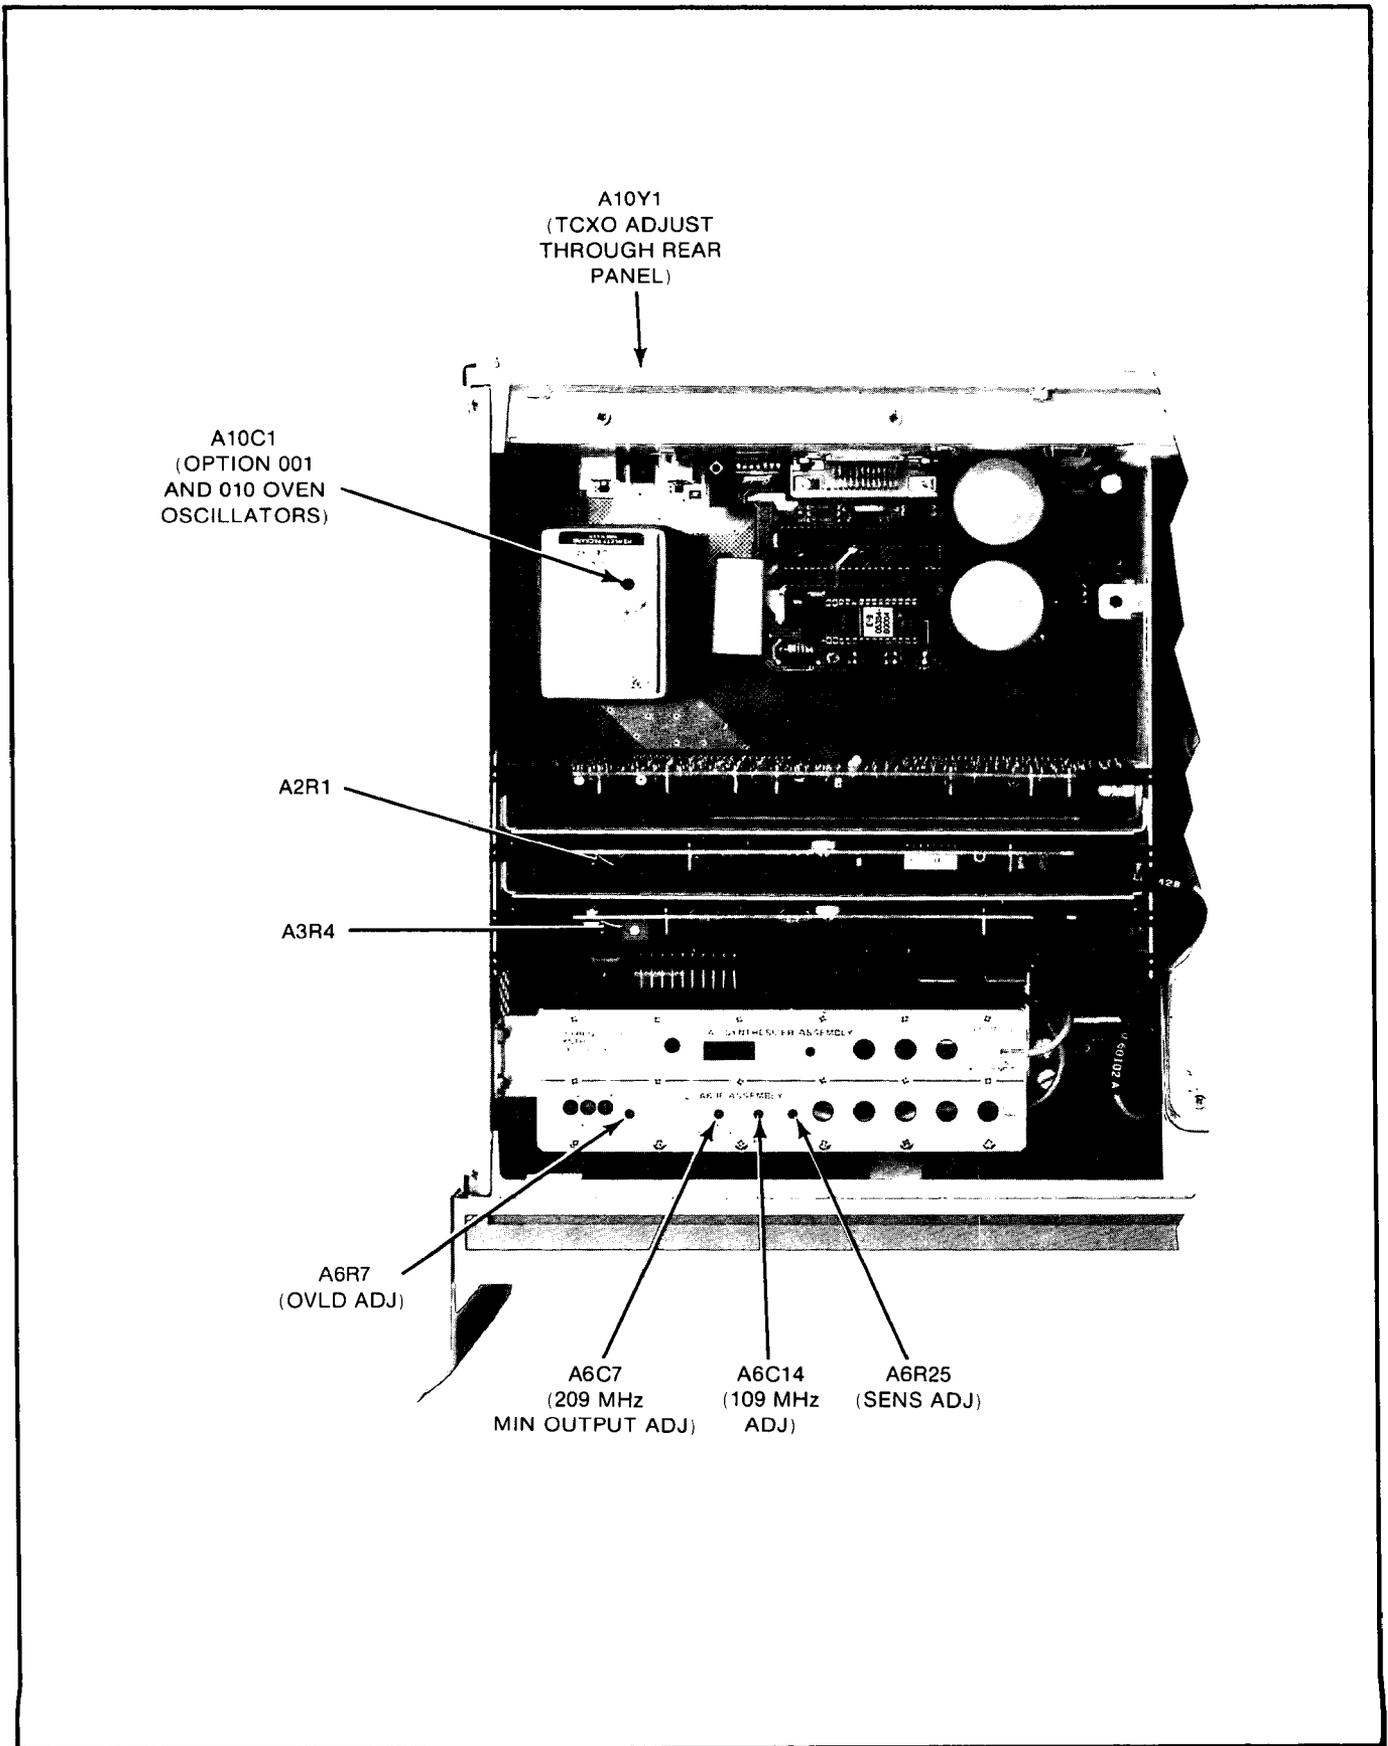

Figure 5-1. HP 5350B/5351B/5352B Adjustment Locations
5-7. Adjustment locations are identified in *Figure 5-1*. Note that all adjustments, except for the TCXO standard timebase adjustment, must be made with the top cover removed. The TCXO adjustment is made through the rear panel hole labeled TCXO ADJUST.
- b. Remove the top cover of the instrument and locate the adjustment (A10C1) on the top of the oven oscillator, as shown in *Figure 5-1*.